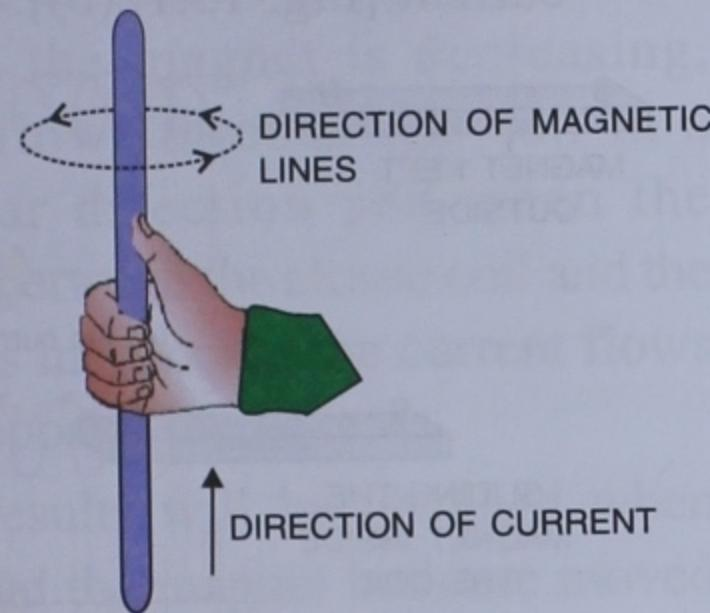

Fig. 13.8 Right hand thumb rule
(1) Right hand thumb rule : When we hold current carrying straight conductor in the right hand in such a way that the thumb points in the direction of the current, then the direction of fingers holding that conductor gives the direction of magnetic lines as shown in Fig. 13.8. In this case, the direction of current in the conductor is upwards. The magnetic lines around the conductor are anticlockwise (from above) around the conductor as shown in the figure.